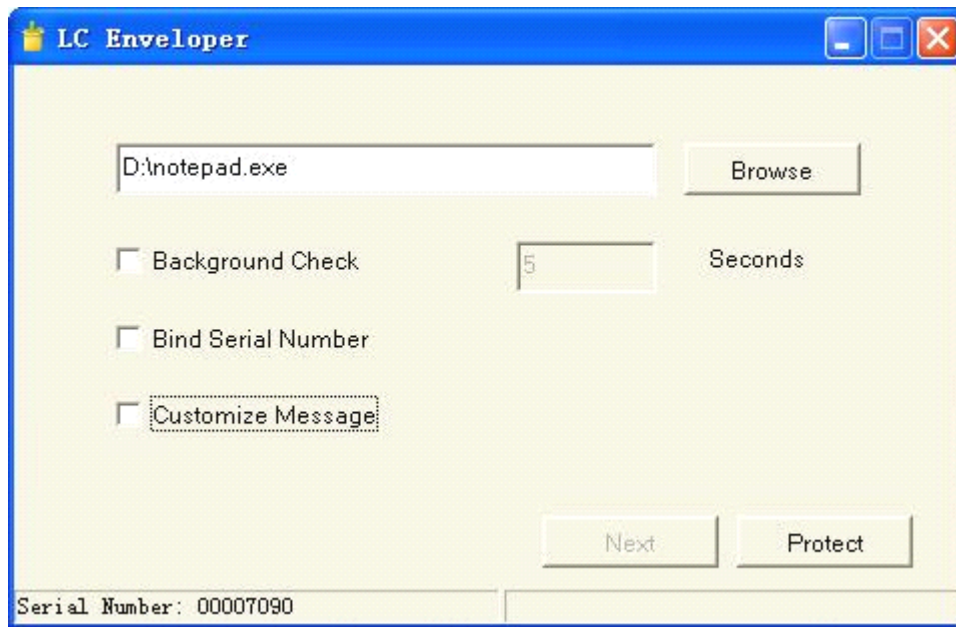

Figure 7-2
- (3) Click browse to select or directly drag the file to be shelled into the square which displays the file path. See Figure 7-2.